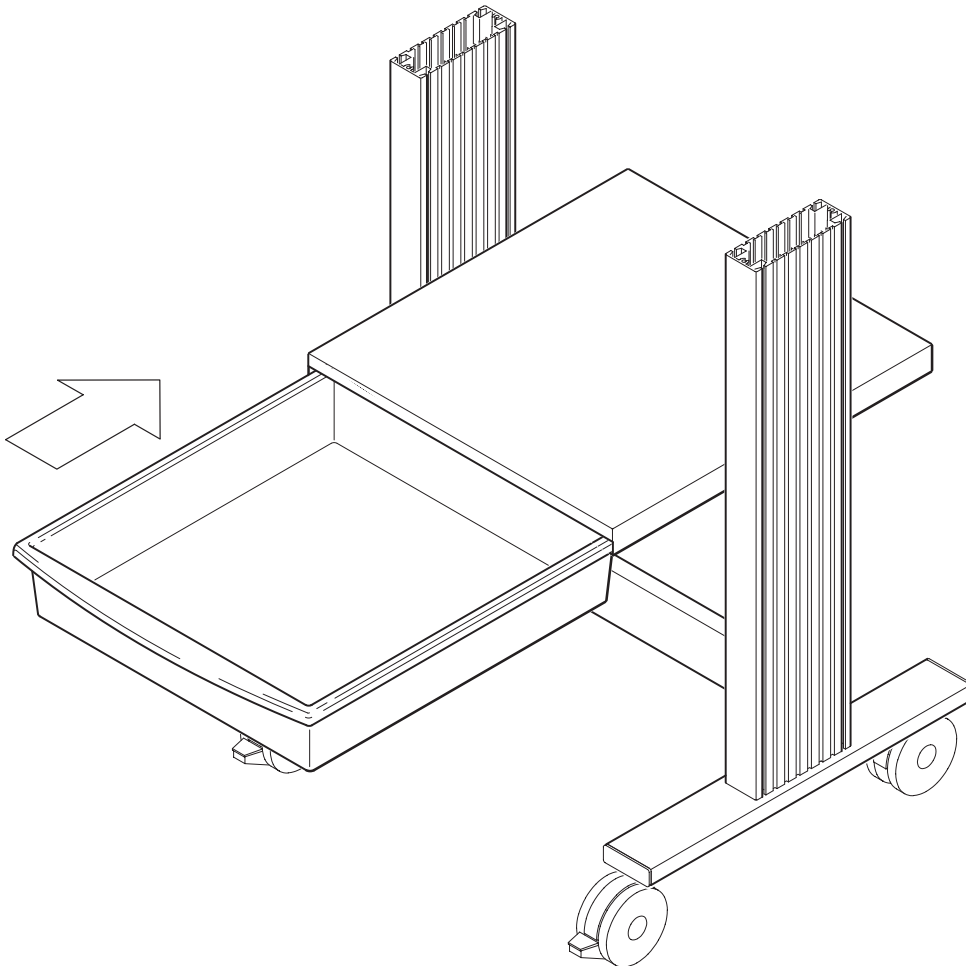

Figure 8: Installing the Drawer
3. Slide the drawer shelf down to into the position shown in Figure 8. (A light pencil line has been marked on the insides of the leg assemblies at this position.) Slide the drawer shelf *slowly* between the leg assemblies to avoid scratching the paint. Use the circular bubble level to make sure the shelf is level.
5. Slide the drawer in underneath the drawer shelf as shown in Figure 8. Position the drawer so that the curved edge is to the front of the cart. Slide the drawer into the shelf until it stops.